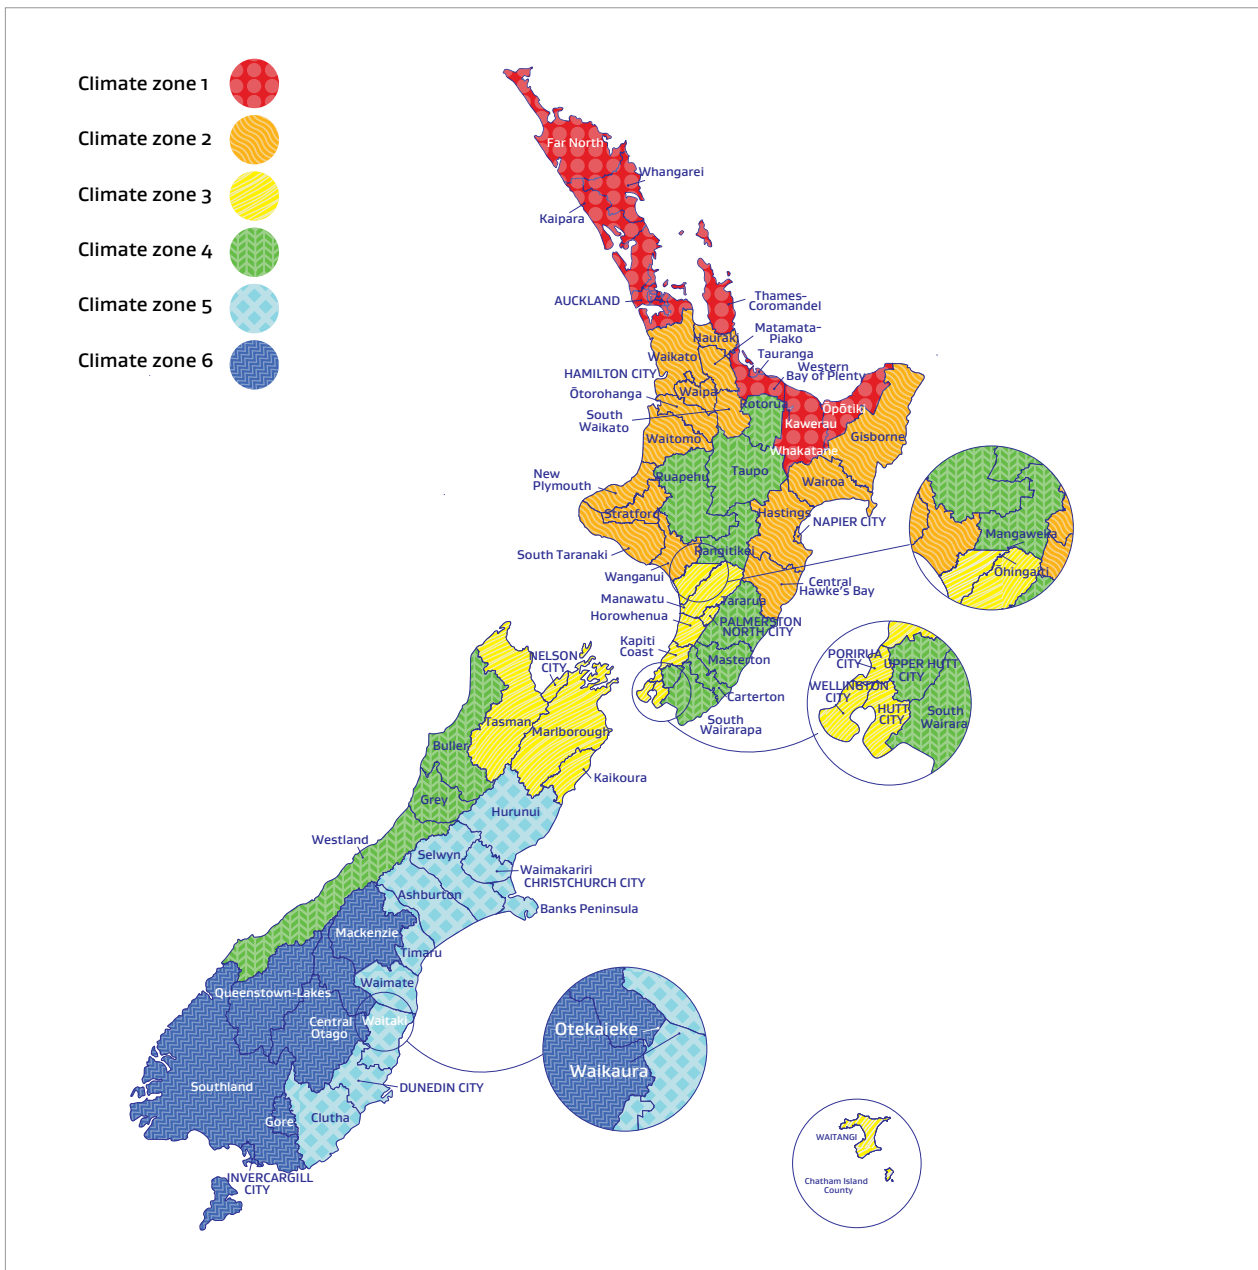

Figure 4. New Zealand is divided into six climate zones that determine how well insulated a sleepout must be.
- Six **climate zones** (Figure 4), from the warmest parts of the country to the coldest. These zones can be found in the H1 Acceptable Solutions and Verification Methods.